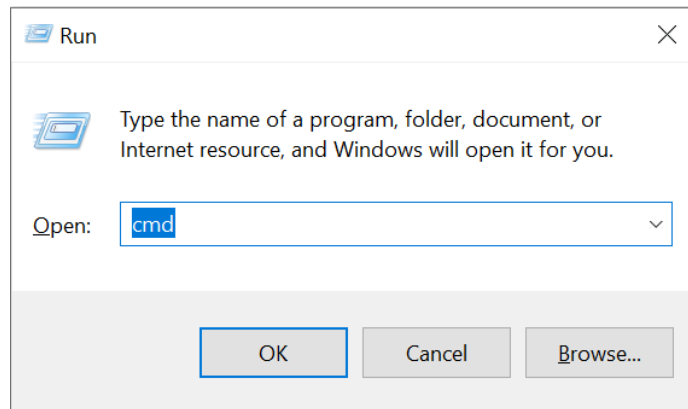
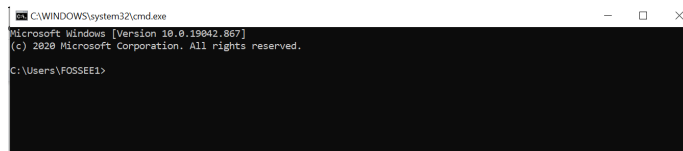

Figure 3.29: Launching the Command Prompt on Windows
Figure 3.30: Command Prompt on Windows
1. Launch the Command Prompt. Press the Windows key+R together. A window, as shown in Fig. 3.29 appears. In the text box adjacent to Open, type `cmd`, and press Enter. The Command Prompt, as shown in Fig. 3.30 appears. By default, it points to the home directory.